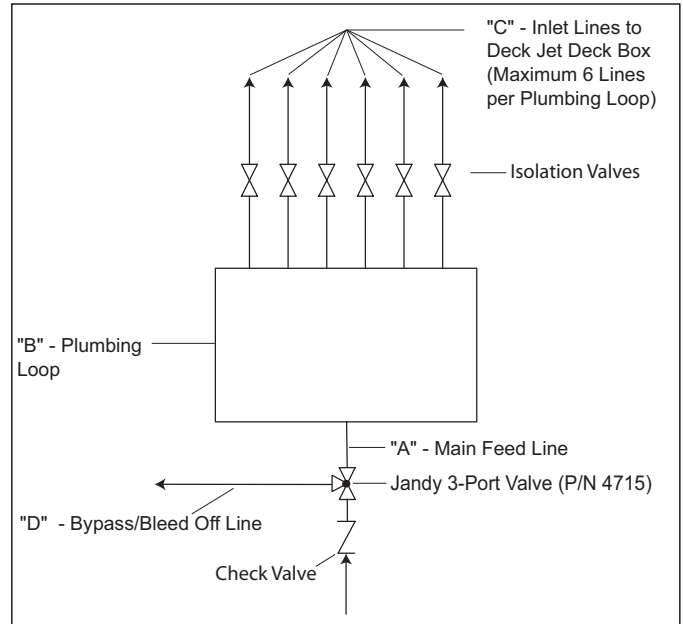

Figure 1. Multiple Jet Plumbing Diagram
1. Determine proper feed pipe size for multiple jet setups. Refer to both Table 1 and Figure 1.
NOTE A Jandy 3-Port Valve should be installed on the main feed line near the pump for the adjustment of total water pressure to all Deck Jets (see Figure 1).
3. From the main feed line, reduce to ¾" piping for each Deck Jet (see Figure 1). Either provide individual valves for each jet, or create an equal pressure loop to equalize pressure in the line.